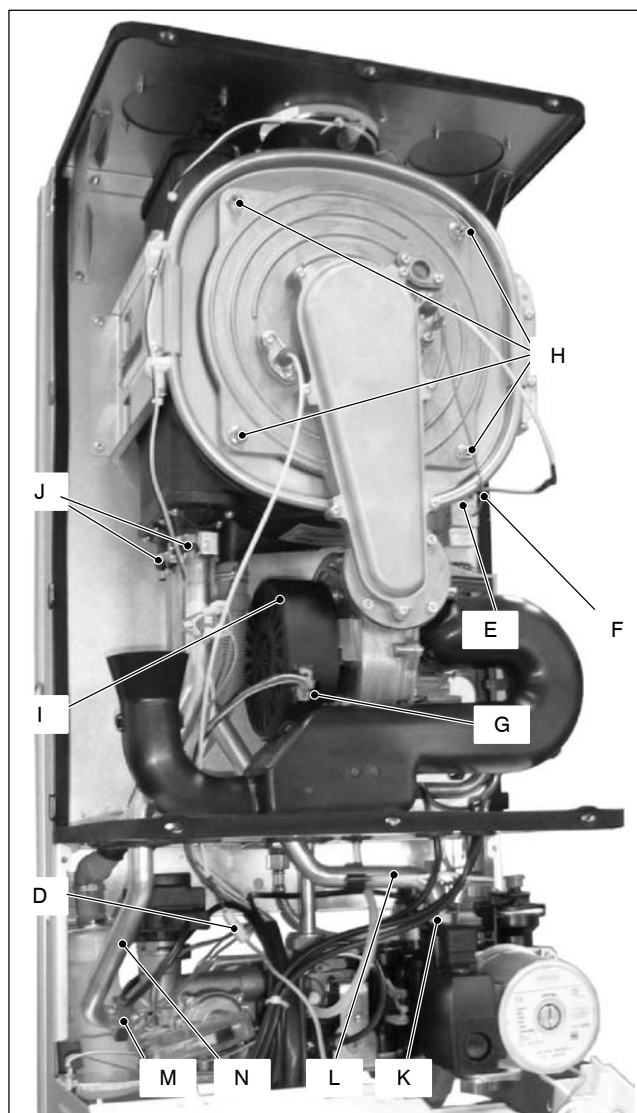

Fig. 5.2
- 4 Disconnect the fan connector *G* by pressing the plastic hook placed on the side of the connector (Fig. 5.2).
- 5 Unscrew the nuts *H* (Fig. 5.2).
- 8 Remove the clips *J* (Fig. 5.2).
- 9 Loosen the connection *K* and slightly move the pipe *L* upwards, turn it towards left (Fig. 5.2) and then move the pipe downwards freeing it from the Condensing heat exchanger.
- 10 Loosen the connection *M* and slightly move the pipe *N* upwards, turn it towards left (Fig. 5.2) and then move the pipe downwards freeing it from the Condensing heat exchanger.
**Ensure to tight the nuts *H* – Fig. 5.2 firmly**